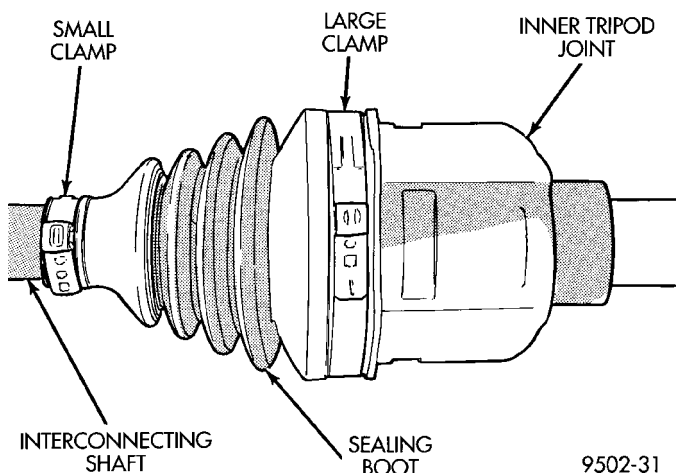

Fig. 26 Inner Tripod Joint Sealing Boot Clamps
(1) Remove the driveshaft requiring boot replacement from the vehicle. See Servicing Driveshaft in this section for the required driveshaft removal procedure.
(2) Remove large boot clamp that retains inner tripod joint sealing boot to tripod joint housing (Fig. 26) and discard. Then remove small clamp that retains inner tripod joint sealing boot to interconnecting shaft and discard. Remove the sealing boot from the tripod housing and slide it down the interconnecting shaft.